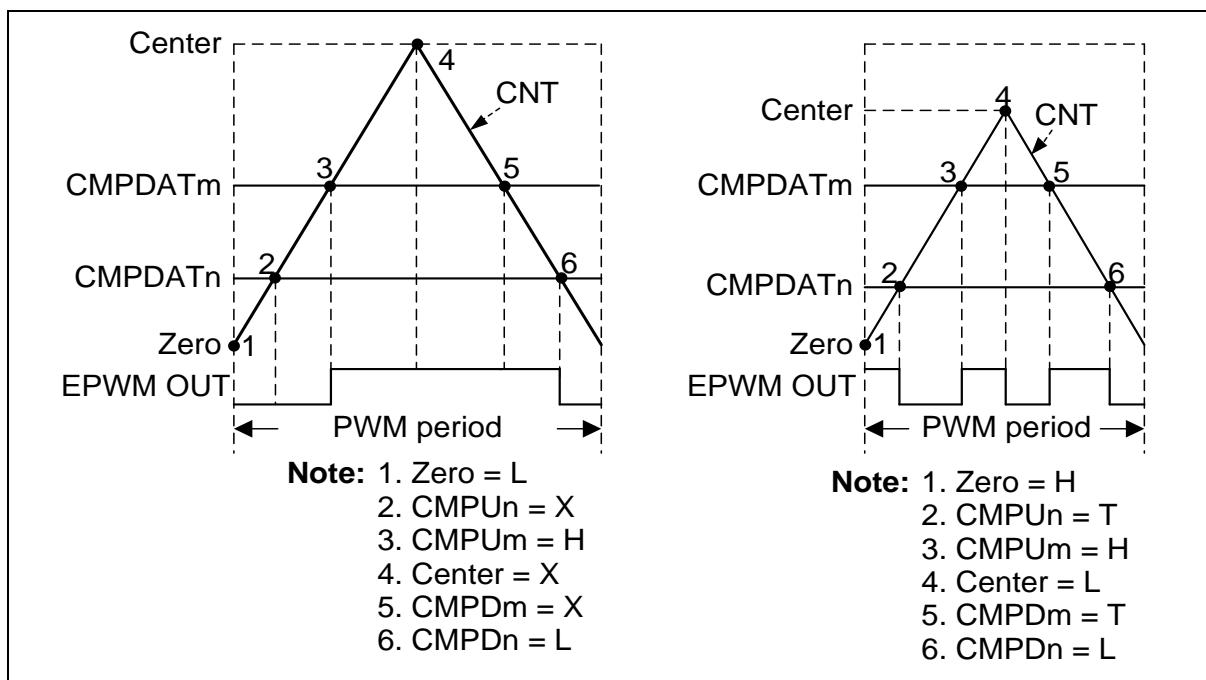

Figure 6.11-18 EPWM Pulse Generation
Each event point can decide EPWM waveform to do nothing (X), set Low (L), set High (H) or toggle (T) by setting the EPWM_WGCTL0 and EPWM_WGCTL1 registers. Using these points can easily generate asymmetric EPWM pulse or variant waveform as shown in Figure 6.11-18. In the figure, EPWM is in complementary mode, there are two comparators n and m to generate EPWM pulse. n denotes even channel number 0, 2, or 4, and m denotes odd channel number 1, 3, or 5. n channel and m channel are complementary paired. Complementary mode uses two channels (CH0 and CH1, CH2 and CH3, or CH4 and CH5) as a pair of EPWM outputs to generate complement paired waveforms. CMPU denotes CNT(EPWM_CNTn[15:0]) is equal to CMP(EPWM_CMPDATn[15:0]) when counting up. CMPD denotes CNT bits is equal to CMP bits when counting down.